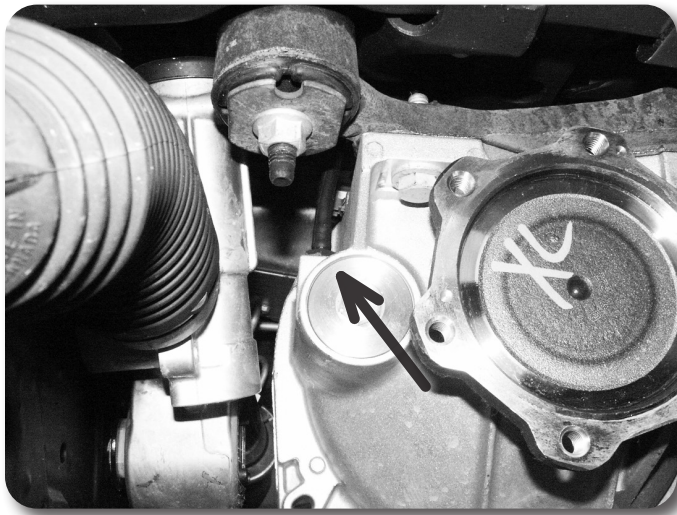

Figure 17
31. Disconnect the differential breather hose Figure 17.